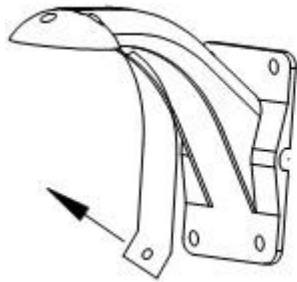

Figure 6
4. Please remove the cover board of bracket (Figure 6) .